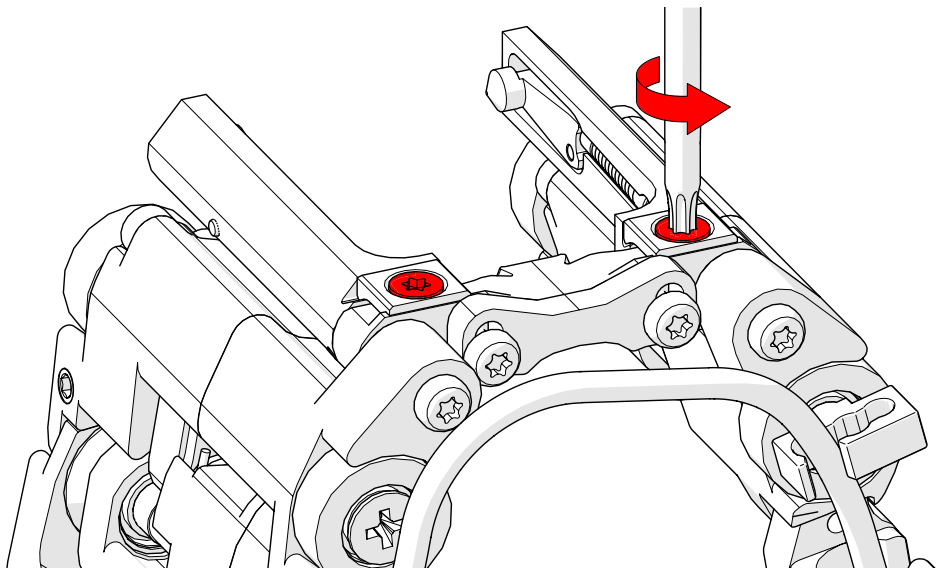

Fig. 53 - Loosen probe holder adjustment screws
4. Loosen the probe holder adjustment screws  $1/8^{\text{th}}$  of a turn to relieve clamp pressure (Fig. 53).